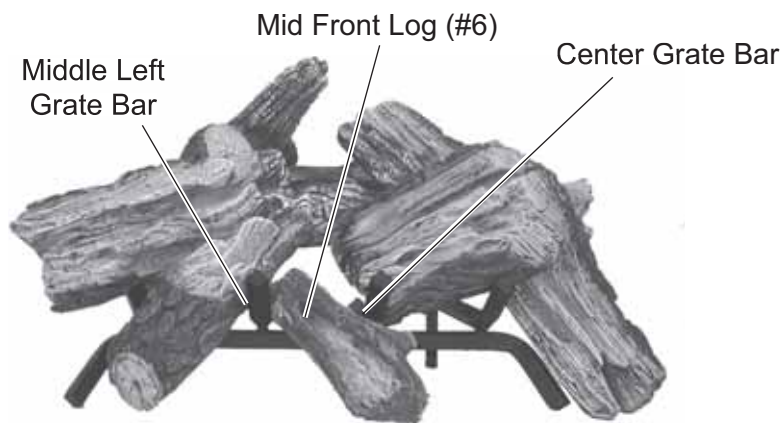

Figure 129 - Placing Mid Front Log (#6) on Grate Between Center and Middle Left Grate Bars.
7. Place Mid Front Log #6 on grate between center and middle left grate bars. Fit notch on back of log on the cross grate bar. *See Figure 129.*